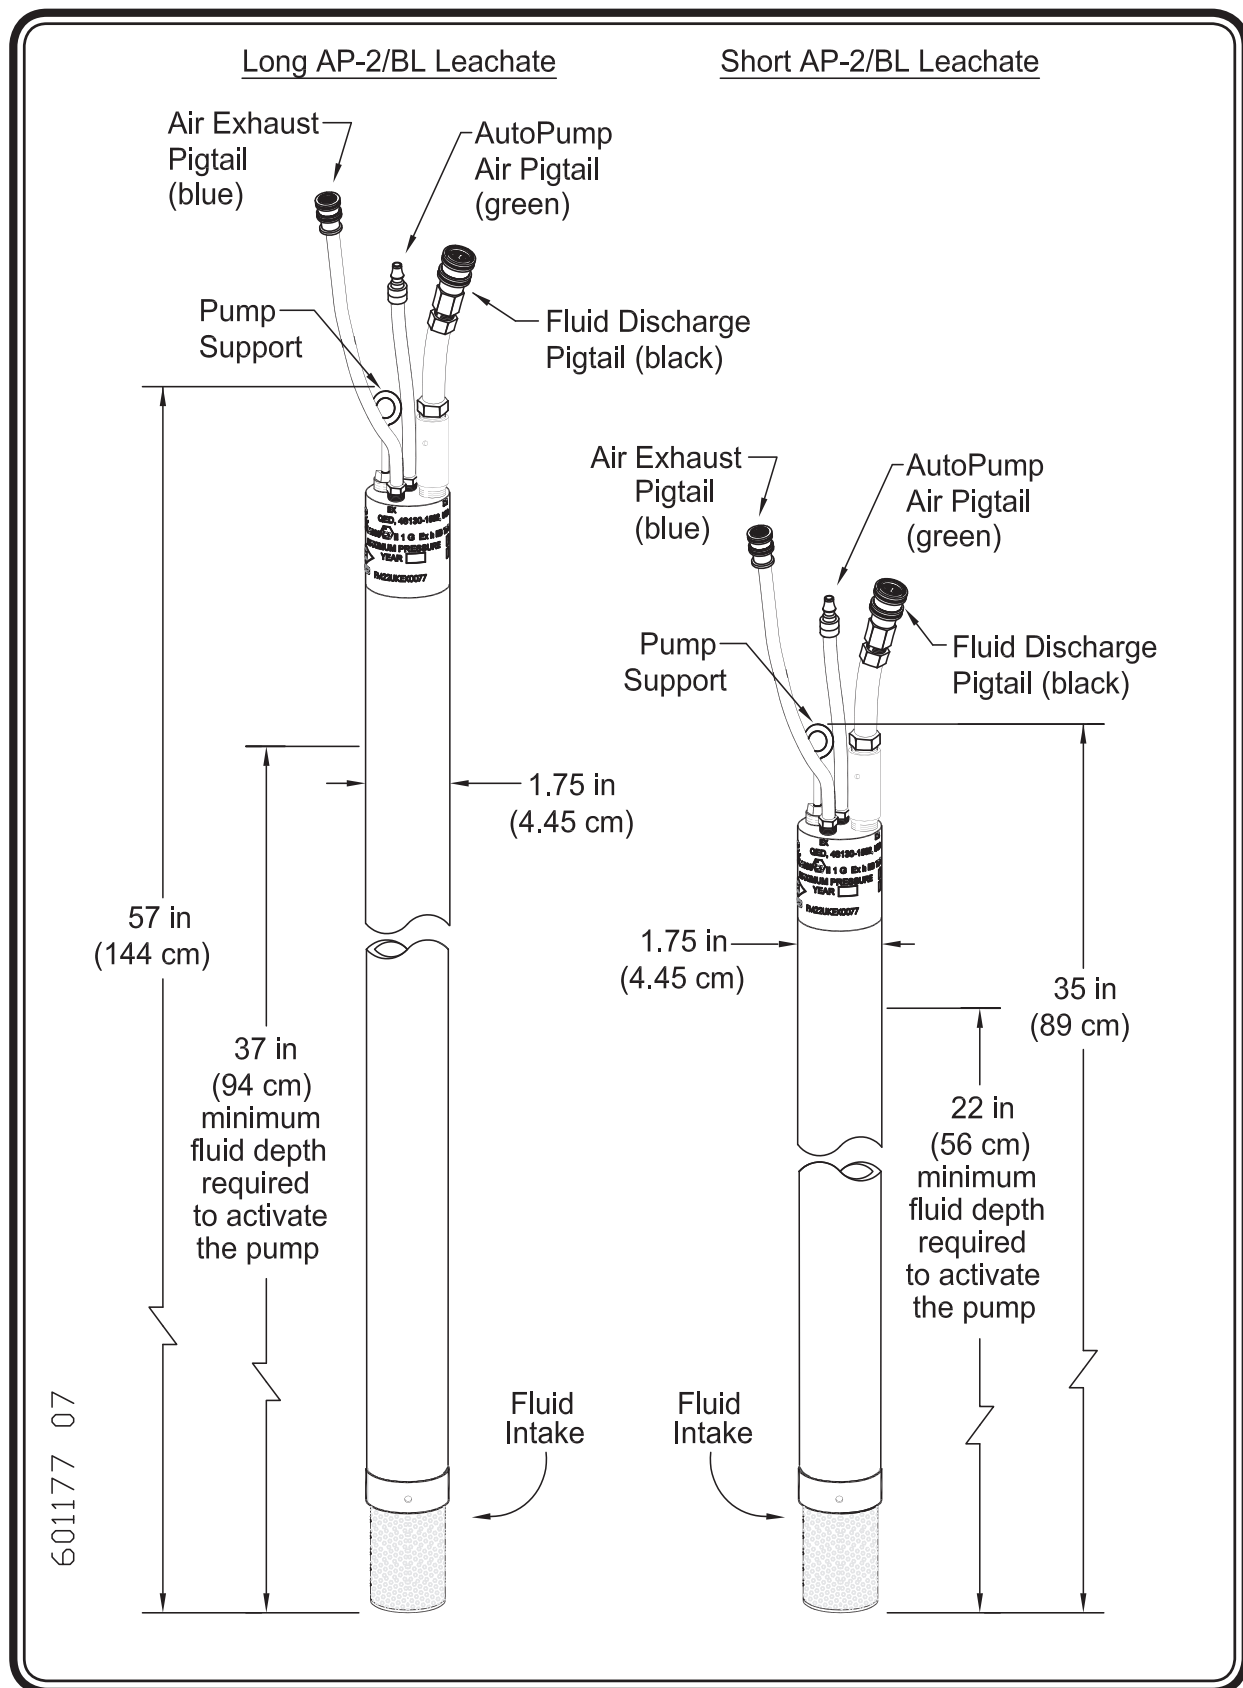

Figure 7 - Long and Short AP-2 Bottom Loading with Leachate Screen
- **Extended 3-inch (7.6 cm) Leachate Screens** – (see figure 7)